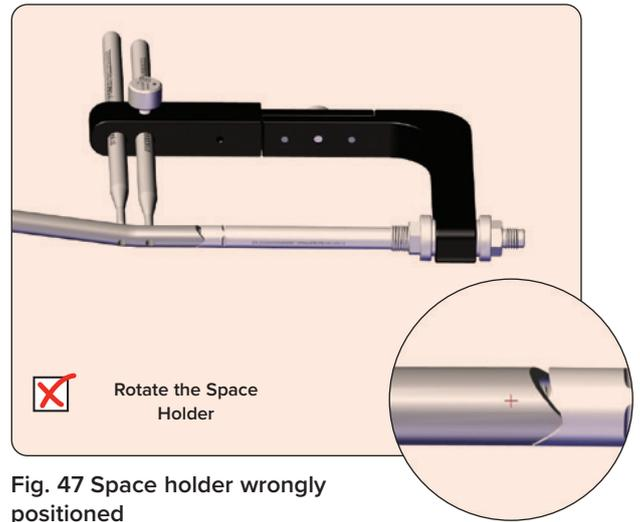

Fig. 47 Space holder wrongly positioned
1) The marking “THIS SIDE UP” on the Space Holder is not facing upwards and the connection between drill guide assembly and FITBONE is loose. (Fig. 47)